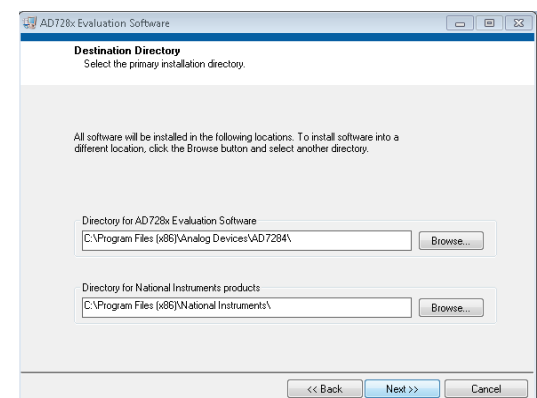

Figure 8. Default Destination Directory
5. The default location of the installation is shown in Figure 8. It is recommended not to change from this location. Click **Next**.